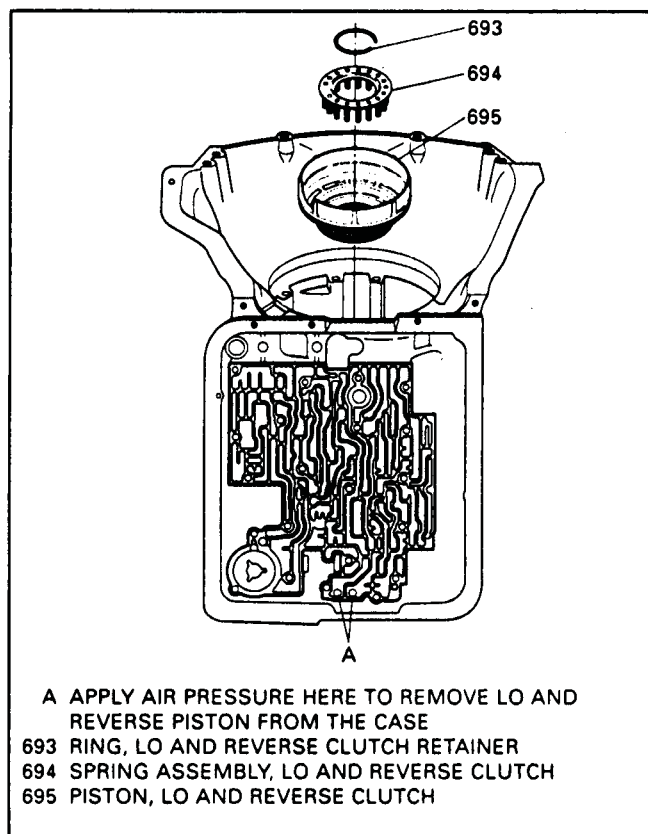

Figure 55
71. Remove the low/reverse clutch piston by applying regulated air pressure to the case apply passages marked "A" in Figure 55.